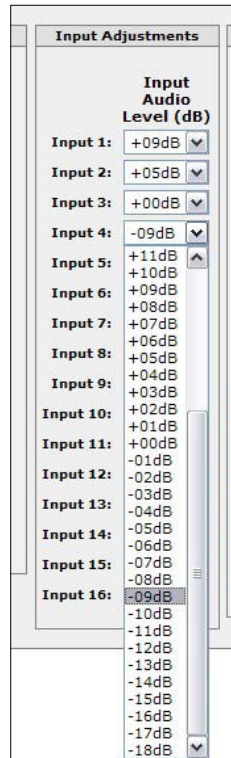

Figure 6-14 — Click in an input field to see the drop down dB value list
1. In the Input Adjustments section, click in the desired input audio level field. A drop down value list (+24 to -18 dB) appears (see figure 6-14, input 4).